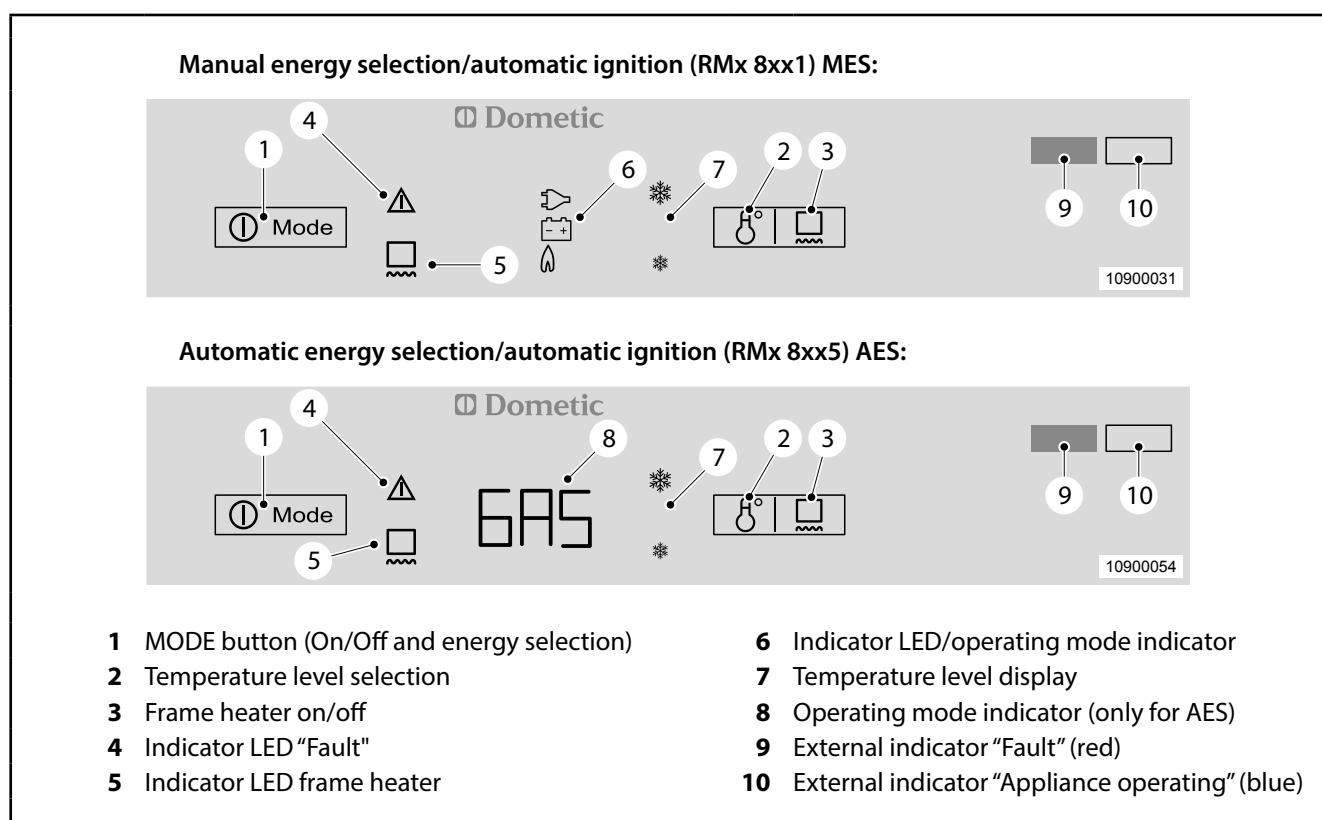

Fig. 86 Refrigerators RMx 8xx1 and RMx 8xx5 - control and switch panel
- ☞ Press the "MODE" button (Fig. 86, item 1) repeatedly until the desired operating mode lights.